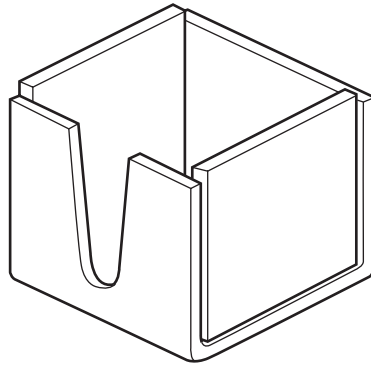

Fig. 5
- 3 A container used to hold notepaper is shown in **Fig. 5**.